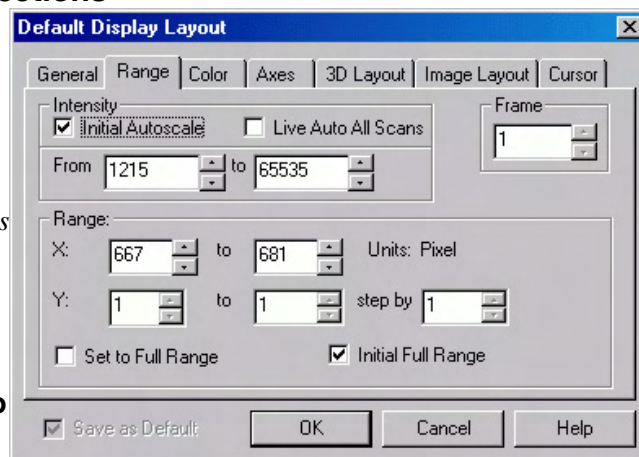

Figure 107. Range tab page
2. Click on the **Range** tab to move the Range tab page (Figure 107) to the front. **Initial Autoscale** and **Set to Full Range** should be selected. The Frame number should be "1."